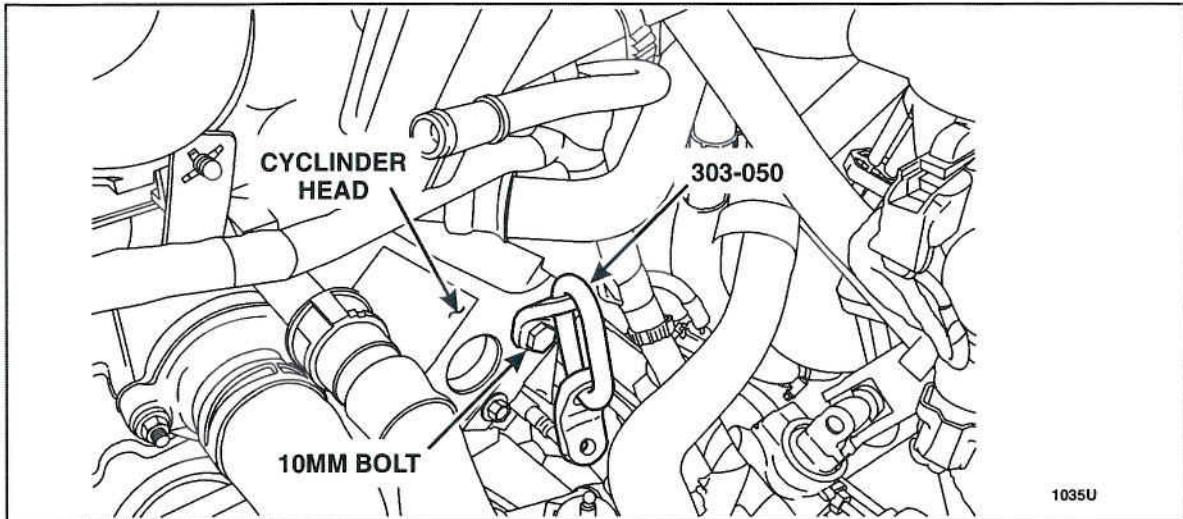

FIGURE 7
13. Install the Engine Lifting Bracket special tool 303-050 onto the cylinder head, using a suitable 10mm bolt. See Figure 7.